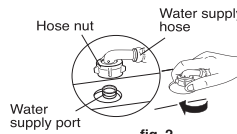

fig. 2
- Tighten the hose nut on the end of water supply hose securely to the water supply port as fig. 2.